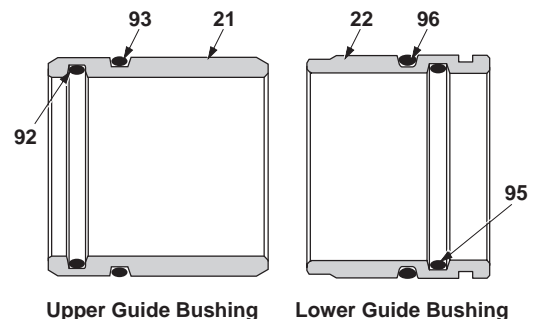

Figure 4 - Optional O-Ring arrangement
(Refer to Figure 4 on page 7 and Figure 15 on page 22)
- D3. By holding the shaft support in place, rotate the plug (4) by 45° (to the open position direction) to align the plug through slots. Then either engage the plug to the shaft support key or shaft support key to the plug slots. To help rotate the plug, the shaft (19) can be insert again into the plug. Blind holes are also machining 180° apart in the shaft support to help hold or move the shaft support using a screwdriver.
- D4. Remove completely the shaft support from the plug (4).
- E. The components which should come out with the shaft (19) are: the packing (17), packing box ring (23 or 100), spacer tube (20) and upper guide bushing (21).
Note: The spacer tube (20) and upper guide bushing (21) may remain in the body. They should be removed. The spacer tube (20) can only be removed by pulling it out of the bonnet end of the body. The upper guide bushing (21) may be pushed through the body after removing the plug or it can be pulled through the bonnet end of the body. For valves designed for slurry or viscous services, the upper guide bushing has an inner O-ring (92) and an outer O-ring (93) and the lower guide bushing (22) has inner O-ring (95) and outer O-ring (96) (Refer to Figure 4).